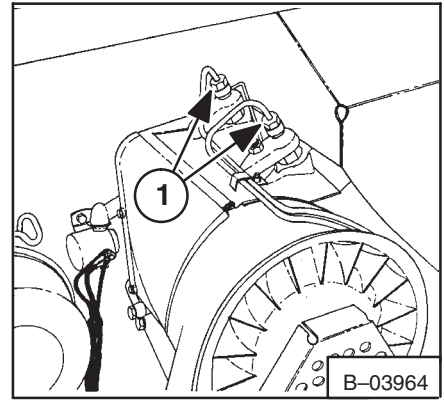

Fig. 1-23 Injector Lines (641)
- Loosen the pressure fitting at each injector (Fig. 1-23, Item 1) and turn the engine until fuel flows from the fittings containing no air. Tighten the fittings.